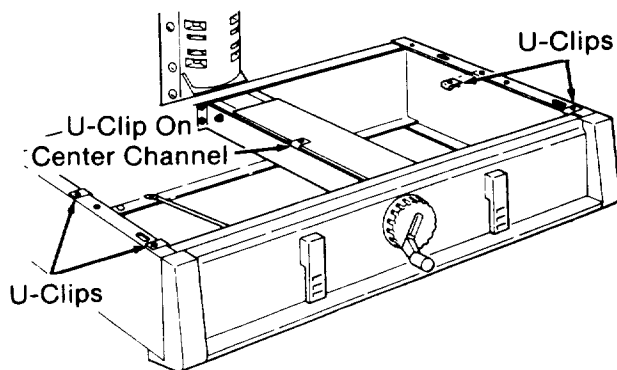

Fig. 38
2. Slide four *U-clips* over the holes in the *saw* as shown. (Figure 38)
3. Slide one *U-clip* over the hole in the left side of the center channel as shown. (Figure 38)